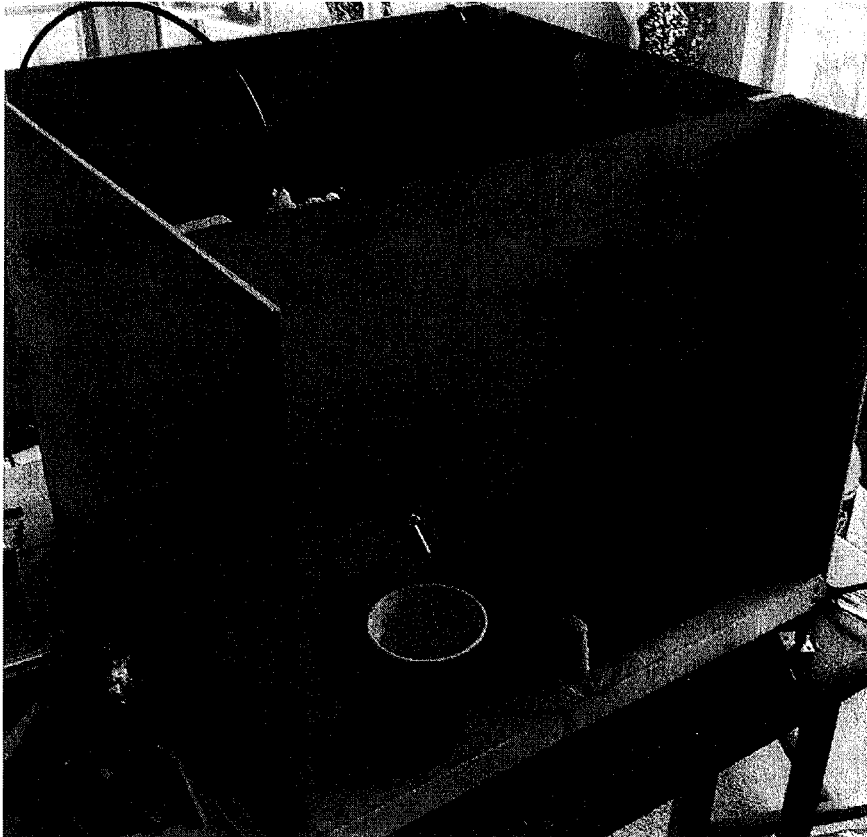

Figure 4: Case for Liquid Mixer
MVP #2 is focused on showing the customer what the final device could potentially look like. This MVP is just the box that will later contain all the components from MVP #1 to make it work. This was used as a visual in order to show potential customers the idea instead of showing a bunch of wires and flow lines. Figure 4 shows the picture we showed the customers in during our interviews to demonstrate what the device looks like and device at the end of the interview. This device was initially marketed as a catch all drink mixer which we changed later according to interviews and feasibility.
- About: Showed him the picture of the device in Figure 4. Asked what he thought of it and if he would buy it.